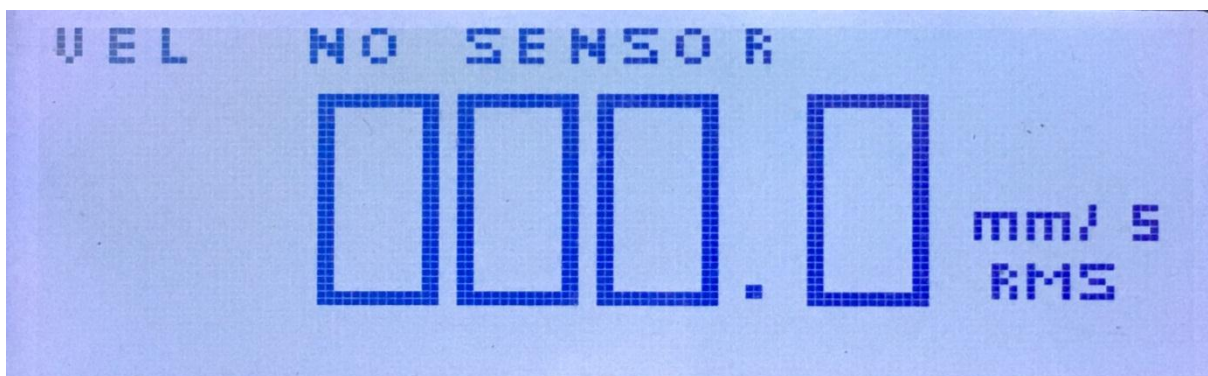
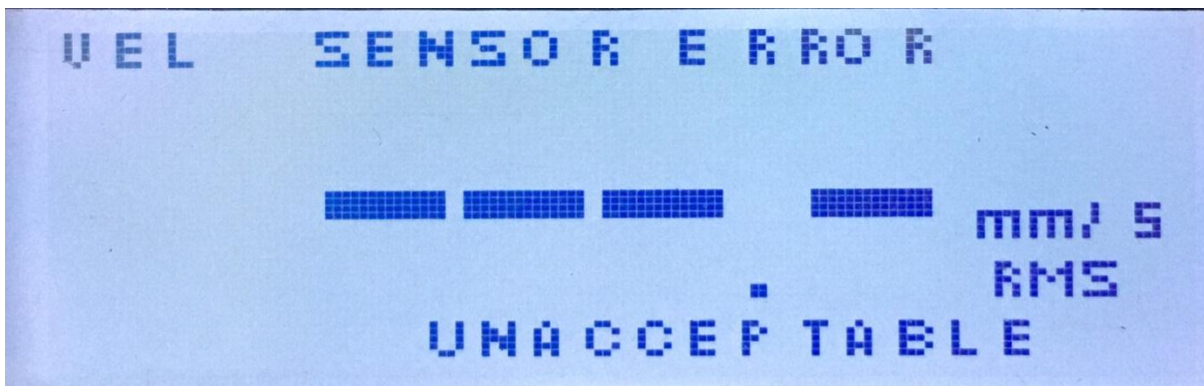

fig. 3.10
fig. 3.12
3.12.1 The meter is supplied with an industry standard 100 mV/G IEPE accelerometer with a male BNC connector, connect this to the female BNC connector at the top right side of the meter. If the meter is on but no sensor connected, the meter will indicate "NO SENSOR" at the top of the display as in fig. 3.10.
3.12.3 If the cable is broken the meter will detect this condition and will display NO SENSOR as in fig. 3.10. If the cable is shorted the meter will display SENSOR ERROR as in fig. 3.12.